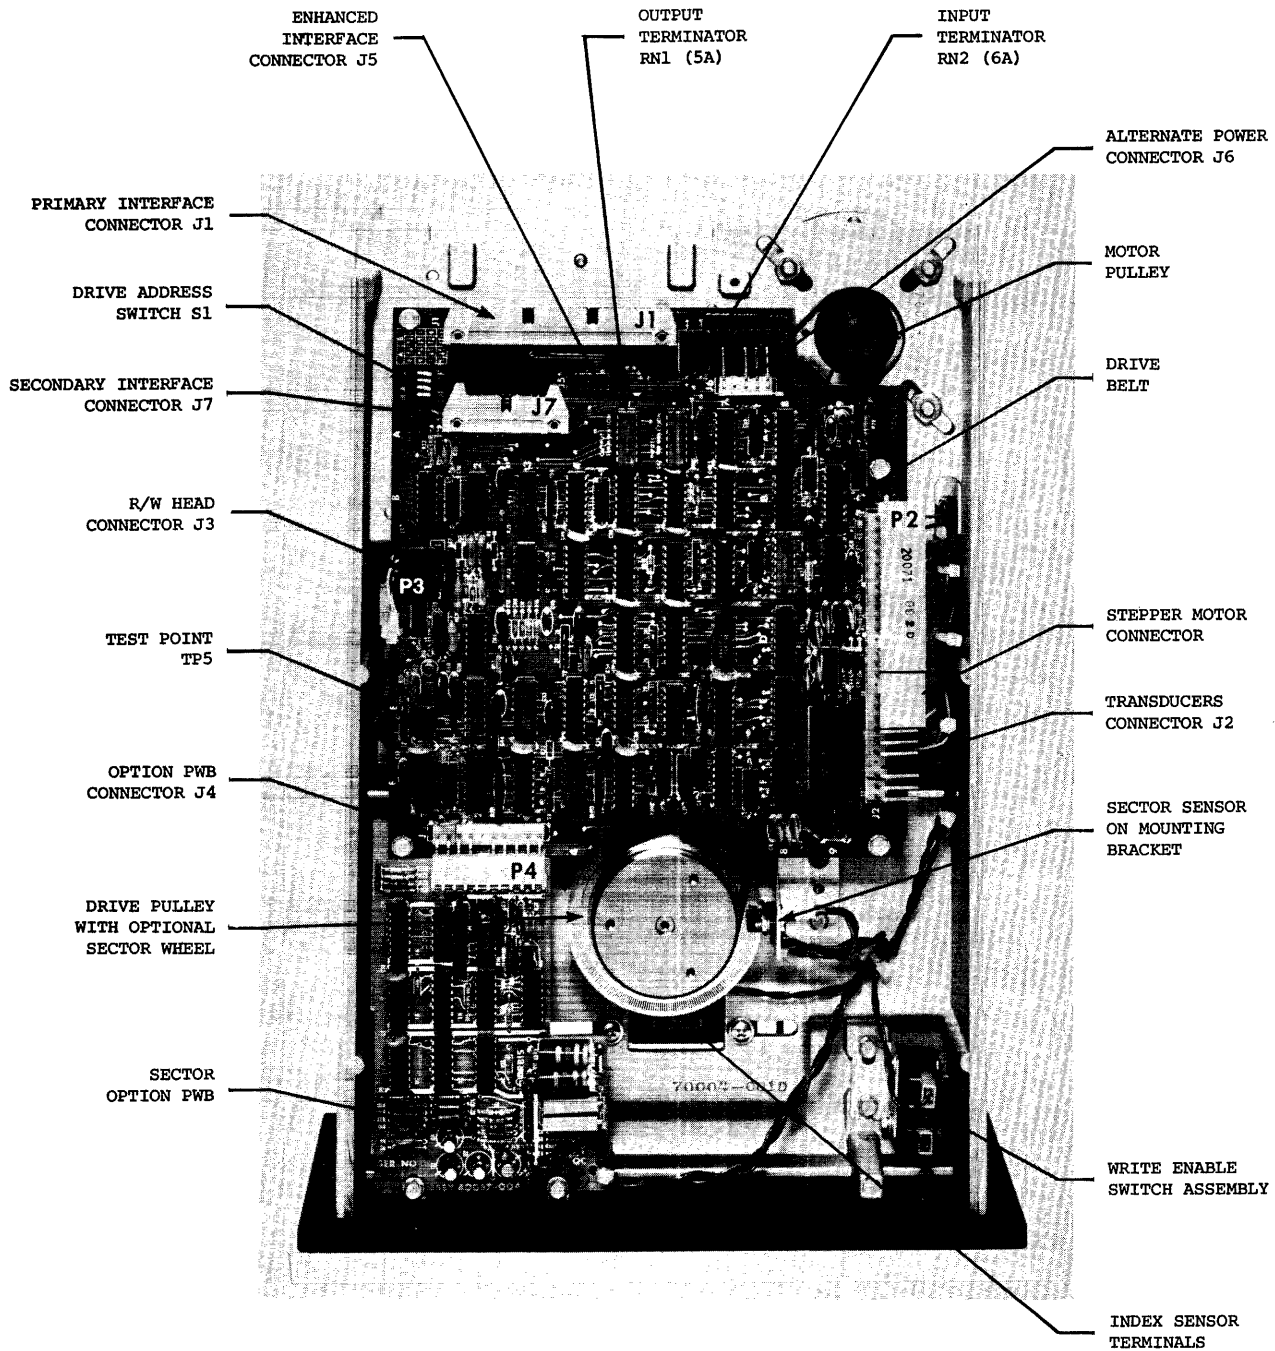

Figure 6-3. Bottom View of Model 76 Diskette Drive
(Figure 6-3)
6.4.7 INDEX SENSOR (Figures 6-3 and 6-4)